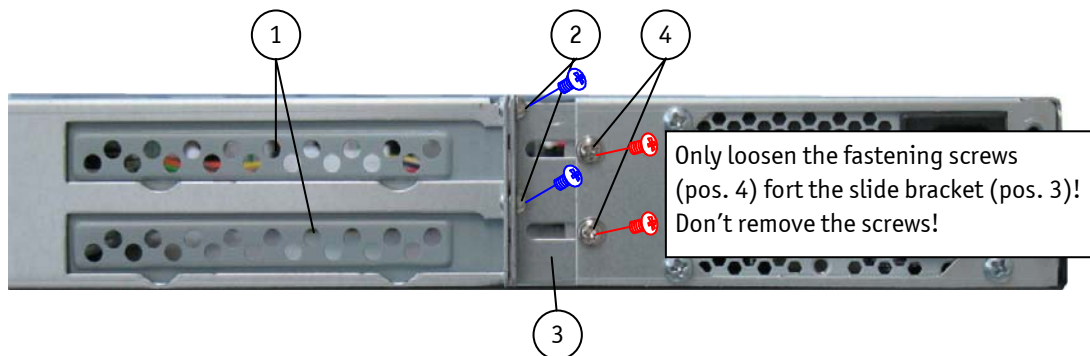

Fig. 18: Detail: Rear side with slide bracket closed (for fixing the expansion cards/slot brackets)
5. In order to remove the slot or card brackets remove the screws (Fig. 18, pos. 2). Retain these screws for later use. Loosen (turn 1/2 to the left) the fastening screws (Fig. 18, pos. 4) to unlock the slide bracket (Fig. 18, pos. 3).
10. Lock the slide bracket in this position by fastening retained the screws (Fig. 18, pos. 2) firmly.